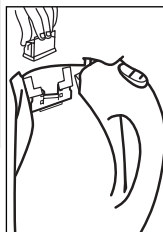

Figure 4
- To refit the filter (See Figure 4): With index finger on the tab at the rear of the filter, and the thumb on the point at the front of the filter, squeeze together to raise the horizontal part of the filter about 30° toward the vertical part. While holding it in this position, engage the grooves in the upright part of the filter with the sides of the filter baffle, and slide the filter down to the bottom of the baffle.